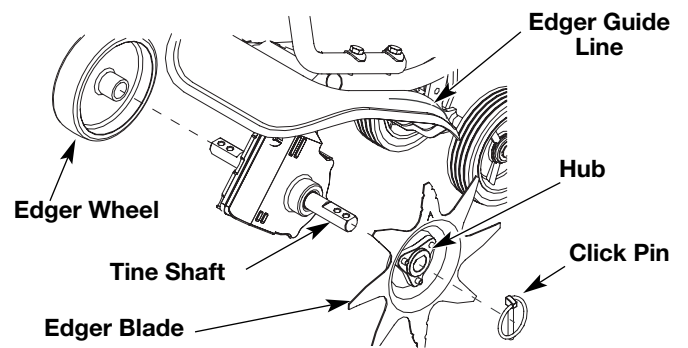

Fig. 4
3. Slide the edger wheel, with the hub facing inward, onto the right side of the tine shaft and secure with the click pin in the inside hole (Fig. 4).
4. Slide the edger blade with the hub facing out onto the left side of the tine shaft and secure with the click pin in the inside hole (Fig. 4).